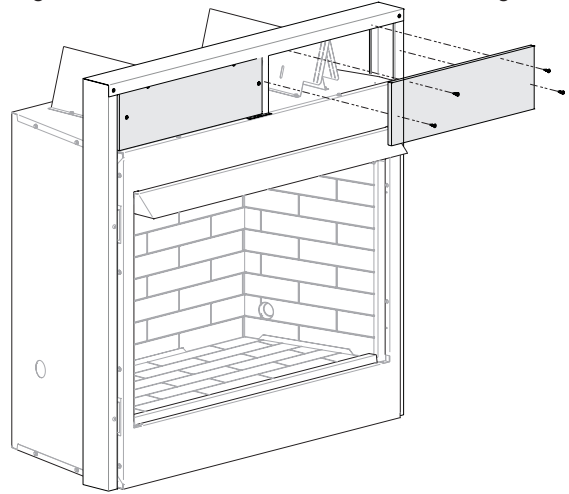

Figure 11
- Locate the two non-combustible boards and place them above the fireplace as shown in Figure 11. Attach the non-combustible board to the studs with six 10-16 flathead screws.
- Secure the non-combustible board to the middle bracket using two 10-16 flathead screws as shown in Figure 11.
- Locate the two non-combustible boards and place them above the firebox as shown in Figure 11. Attach the non-combustible board to the studs with six 10-16 flathead screws.